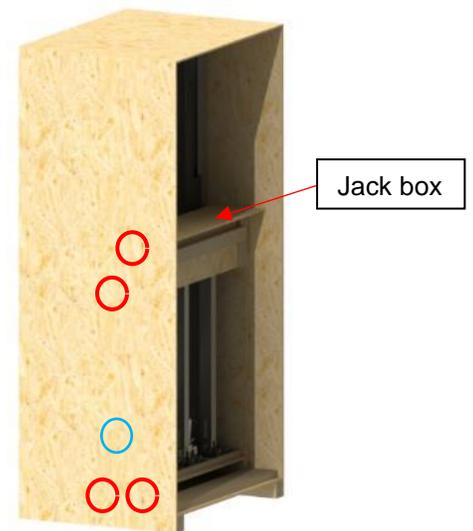

Figure 37
- 10) Unscrew the Robertson #8-10 x 1.5" screws holding the jack box – four screws per side: two screws at the top, two screws at the bottom. The blue circle represents the screw holding the crate, the jack box and the binding blocks. This screw is only on the left side of the crate. Unscrew it as well. (Figure 37)